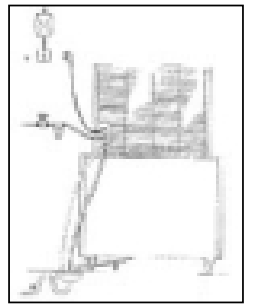

Fig 18.
- 10) Connect the 3/4" Feeding pipe (supplied) to the machine and to the cold drinking water supply line. It is advisable to install a shut-off valve (not supplied) to the water feed pipe. If the feed water contains impurities, the installation of a filter system is recommended. If the water is particularly hard, i.e. rich in minerals and their derivatives, the application of a suitable water filter is recommended, preventing any scale deposits blocking the water circuit of the machine (Fig.18).
- 11) Fit the flexible drain pipes to the icemaker and the storage bin ensuring there is adequate fall on the pipes to avoid the drain water backing up. For a perfect water outlet from the machine a minimum incline of 3% of the pipes is advisable. Check also that the pipes are not throttled or siphoned. It is advisable that the pipes discharge in an open vented drain (Fig.18).